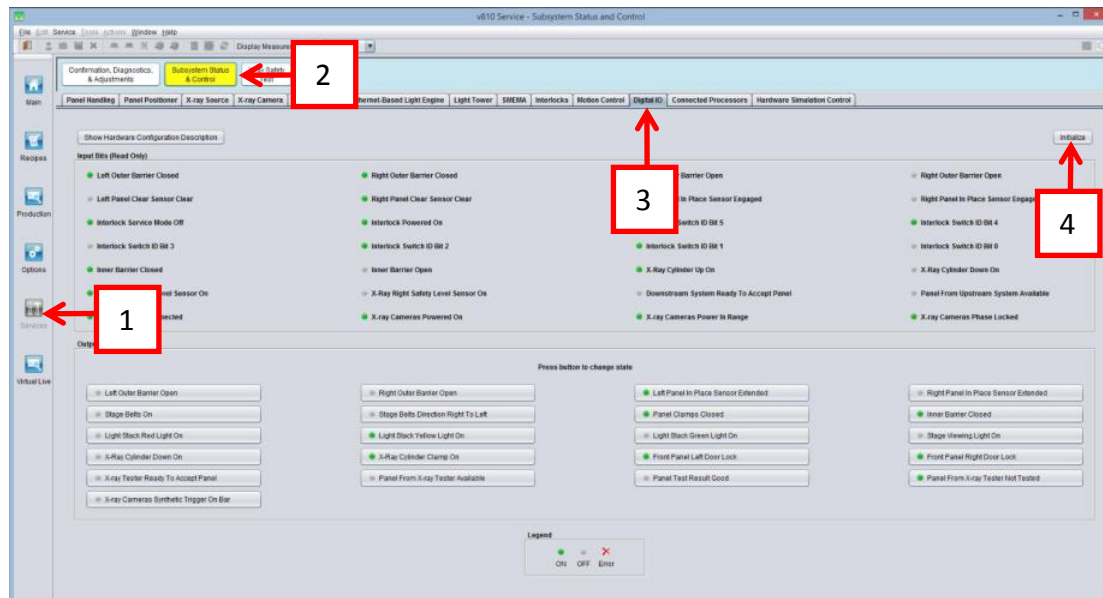

Figure 35 Digital IO
2. At V810 GUI, go to Services->Subsystem Status & Control->Digital IO and click “Initialize” as shown in Figure 35